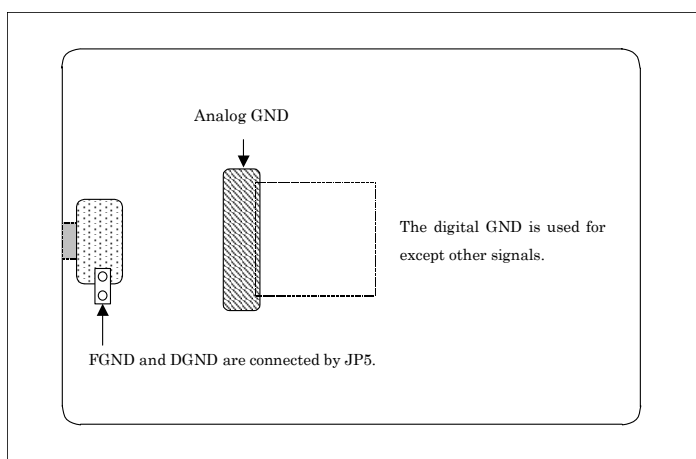

Figure 2 M3A-0037 fourth layer
- Connect the power supplies and grounds firmly on wide areas. Connect PLLGND, BIASGND and AFEAGND on sufficiently wide areas. Refer to Figure 2 “Analog GND” on page 7.
- The analog ground (AGND) is allocated on the fourth layer. The analog ground has almost the same shape as the analog power supply (AFEAVDD) on the third layer. Refer to the following Figure 2.